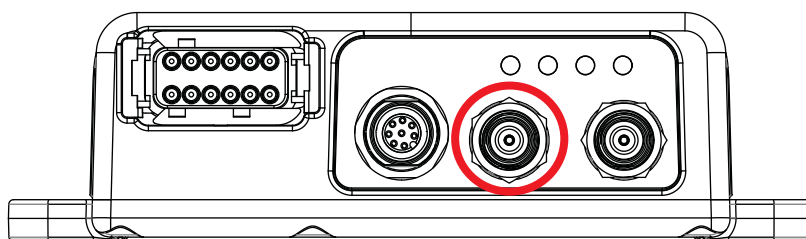

Figure 14: Primary Antenna Connector
2. Connect the antenna cable to the primary antenna connector circled in red in Figure 14.